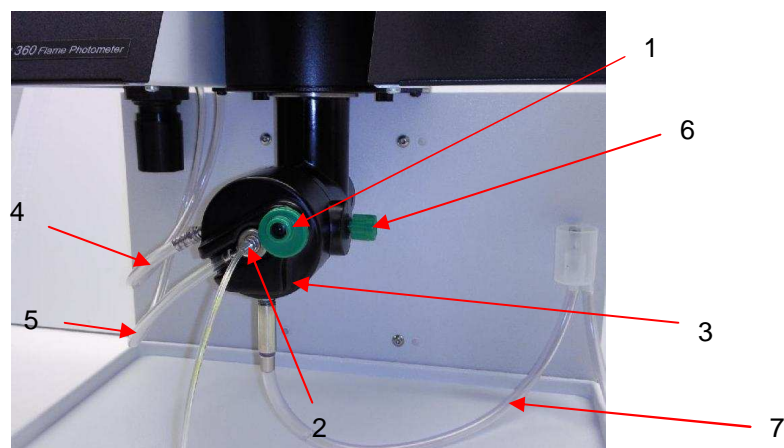

Figure 6.6 Mixing Chamber
6. Release the Nebuliser Retainer (item 1, Figure 6.6) and withdraw the Nebuliser (item 2, Figure 6.6).
2. Release the nebuliser retainer and withdraw the nebuliser (items 1 and 2, Figure 6.6).
3. Disconnect the fuel tubing (item 4, Figure 6.6) from the end cap connector (item 3, Figure 6.6) using a twisting movement. *Do not* pull the tubing, as this will make it grip the connector more tightly.
7. Unscrew the end cap securing screw (item 6, Figure 6.6). Grasp the end cap (item 3, Figure 6.6) and remove it from the mixing chamber, with a slight twisting action. Lift the end cap to allow the water in the 'U' tube to flow into the constant head drain. Disconnect the 'U' tube from the end cap and constant head drain.
14. Replace the end cap, using a twisting movement. Align the hole with the mixing chamber screw fixing. Fit the screw (item 6, Figure 6.6).